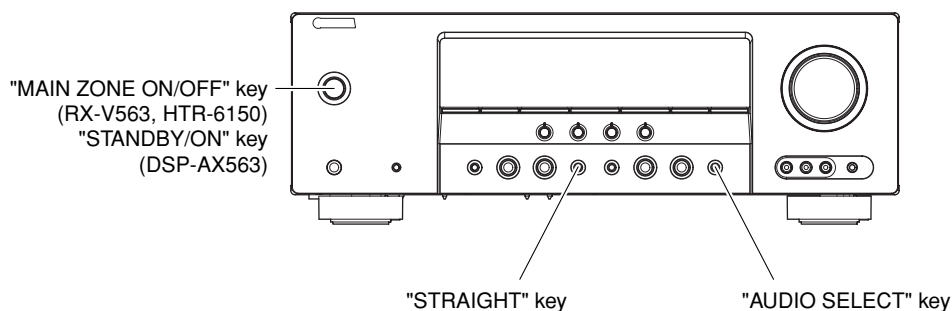

Fig. 4
- 2. Press the "MAIN ZONE ON/OFF" (RX-V563, HTR-6150) / "STANDBY/ON" (DSP-AX563) key while simultaneously pressing the "STRAIGHT" and "AUDIO SELECT" keys. (Fig. 4)